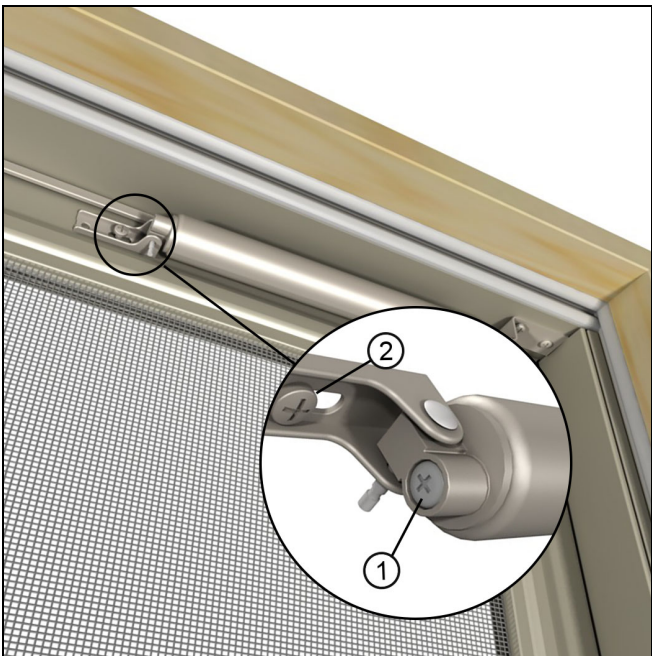

Figure 17
6. Attach the closer to the head jamb bracket with the split connecting pin. See Figure 17.